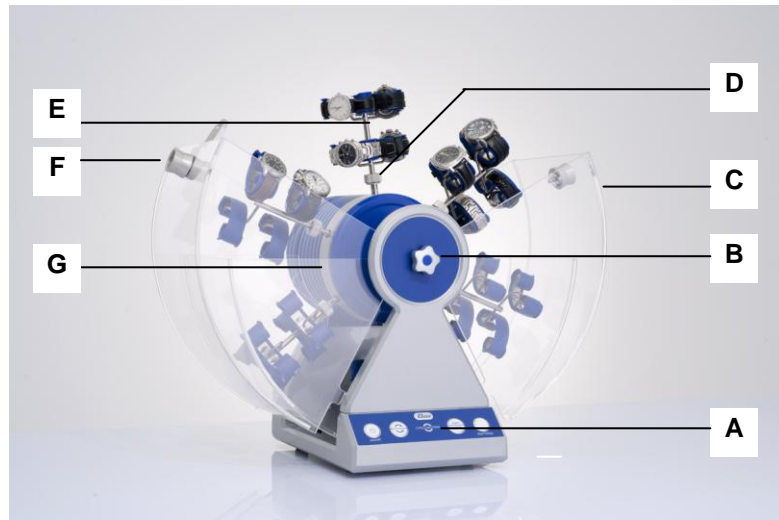

Fig. 3.7. front view
Movement The speed of the spindle head (*fig. 3.7. G*) can be set to either 1 or 4 revolutions per minute (rpm). Due to the internal speed increase the rotating speed of the clip is 4.5 times higher. The watches are wound up either in both rotational directions or in only one rotational direction depending on the type of watch (see *figures 3.6.1. and 3.6.2.*).
Or turn the disengaging screw (*fig. 3.7.B*) to the left to separate the spindle head from the drive shaft. Now turn the spindle head into the required position by hand and retighten the disengaging screw.
3. Mount the clips with fixed watches or clockworks to the spindle head one after the other. For this, open the knurled screw of the empty clip support (see *fig. 3.7.D*), insert a clip and retighten the knurled screw. Then move the next clip support in the required position and mount the second clip, etc.